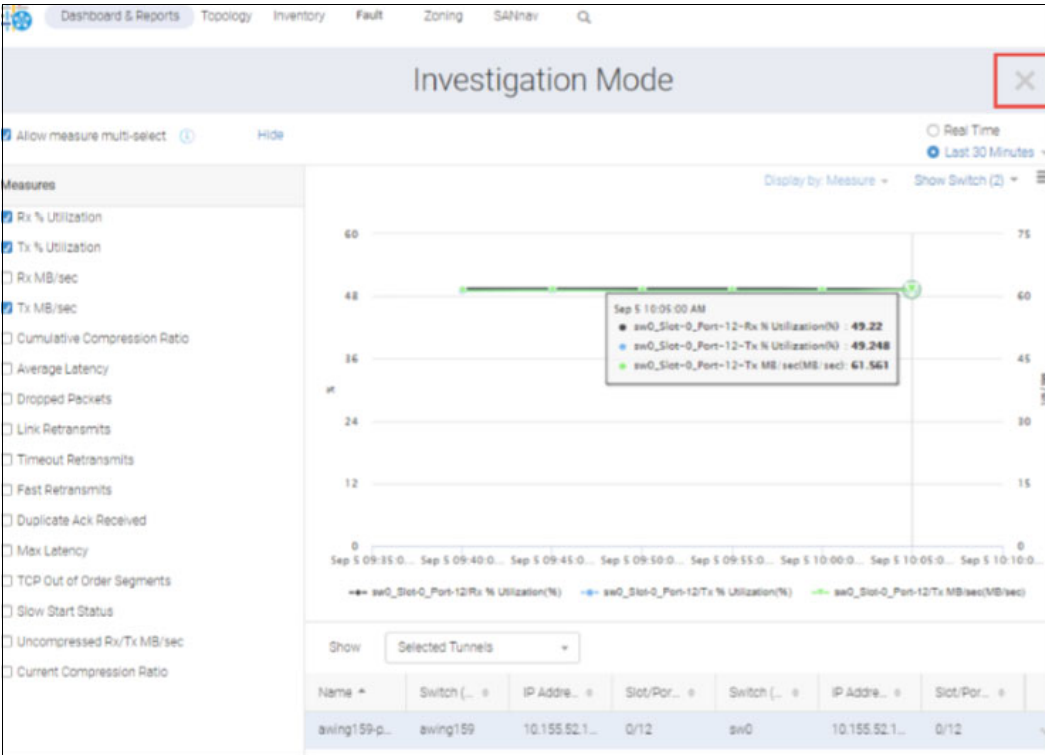

Figure 9-24 Investigation Mode dialog for a tunnel
4. Using Investigation Mode, you can see trends over time. Figure 9-24 on page 162 shows the Investigation Mode dialog for a tunnel. Click the **X** in the upper-right corner of the window to return to the Dashboard View.